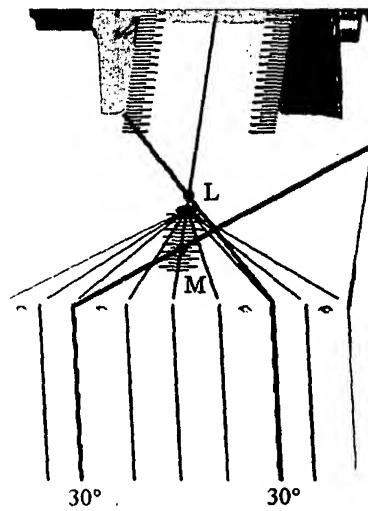

Fig. 12
- a. Line up the Knee Laser with the centerline on the Target. This "preliminary" longitudinal axis will be within a few degrees of the actual because of the anatomical fit of the **V-Frame** in the femoral intercondylar notch. (Fig. 12)
- b. Swing the patients flexed leg laterally (**L**) to 30 degrees and hold in place. Make a small dot on the target centerline where it intersects the laser line. Label this dot **L**. (Fig. 12)
- c. Next, sweep the leg medially (**M**) to 30 degrees and hold in place. Make another small dot on the target centerline at the laser line intersection. Label this dot **M**. NOTE: If the points are coincident, skip ahead to Step 2. (Fig. 12)